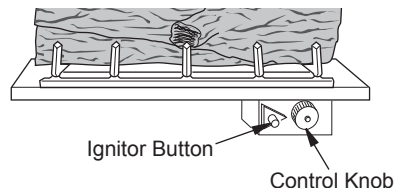

Figure 26 - Control Knob and Ignitor Button Location
3. Turn control knob clockwise ↻ to the OFF position (see Figure 26).
4. Wait five (5) minutes to clear out any gas. Then smell for gas, including near the floor. If you smell gas, **STOP!** Follow "B" in the safety information, column 1. If you don't smell gas, go to the next step.
5. Turn control knob counterclockwise ↺ to the PILOT position. Press in control knob for five (5) seconds (see Figure 26).